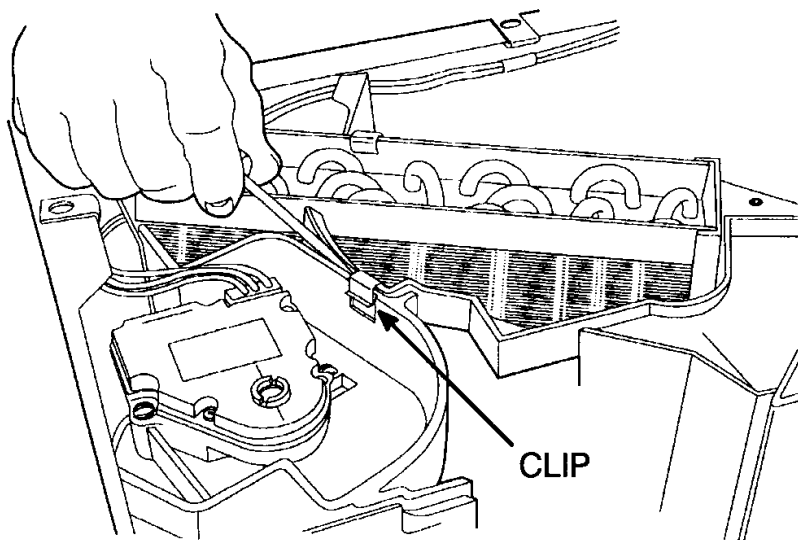
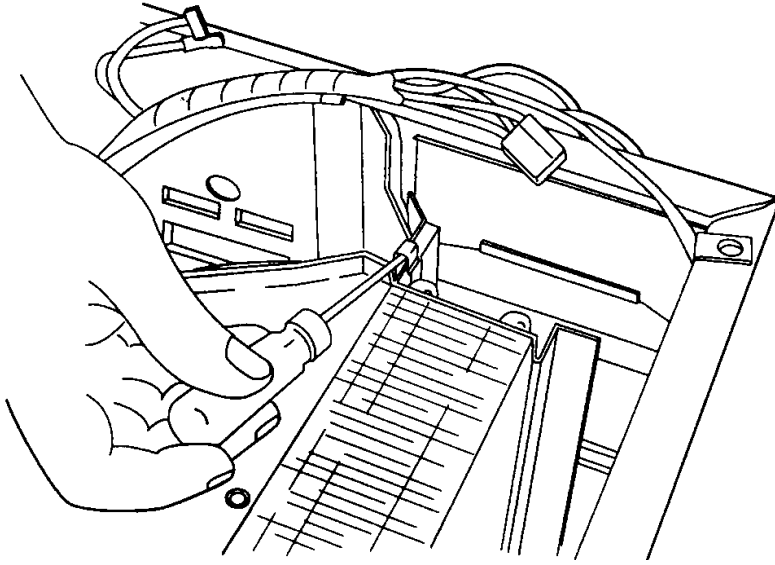

Figure 26 Clip Securing Bunk Blend-Door Assembly to Cab Blend-Door Assembly
Figure 29 Clip Securing Cab Blend-Door Assembly to Evaporator
3. Remove the clip that secures the bunk blend-door assembly to the cab blend-door assembly (Figure 26).
4. Install the clip between the bunk blend-door assembly and the cab blend-door unit (Figure 26).
3. Remove two clips: one securing the cab blend-door assembly to the evaporator (Figure 29), and one securing the cab blend-door assembly to the bunk blend-door assembly (Figure 26).
3. Install the two clips securing the cab blend-door assembly to the evaporator and the bunk blend-door assembly (Figure 29 and Figure 26).